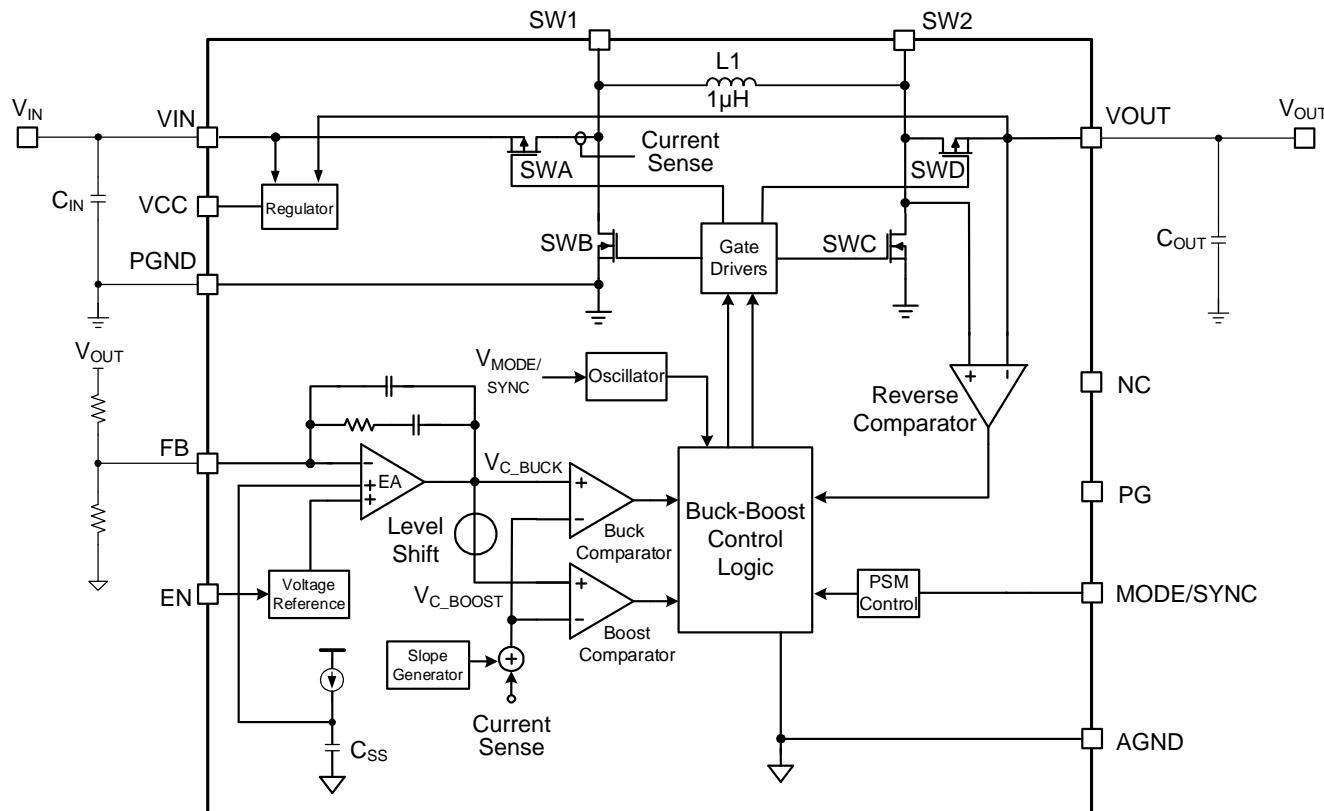

Figure 1: Functional Block Diagram
The MPM4710 is a high-efficiency, dual-mode, buck-boost converter that can regulate the output voltage ( $V_{OUT}$ ) above, equal to, or below the input voltage ( $V_{IN}$ ).  $V_{OUT}$  is sensed by the feedback (FB) pin via an external resistor divider connected between  $V_{OUT}$  and PGND (see Figure 1 on page 10). The difference between the FB voltage ( $V_{FB}$ ) and the internal reference voltage ( $V_{REF}$ ) is amplified by the error amplifier (EA) to generate a buck control signal ( $V_{C\_BUCK}$ ). The buck comparator compares  $V_{C\_BUCK}$  to the internal current ramp signal (the sensed SWA's current with slope compensation) to generate a pulse-width modulation (PWM) signal for SWA and SWB.